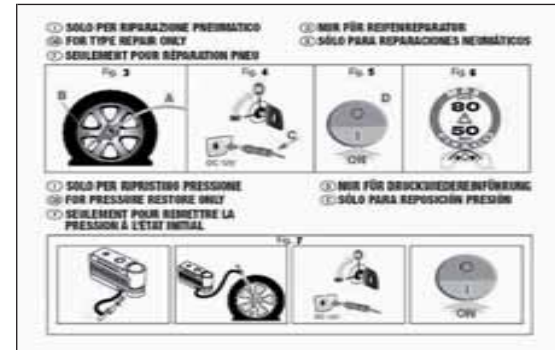

fig. 151
- instruction booklet fig. 151, to be used for prompt and correct use of the quick repair kit and then to be handed to the personnel charged with handling the tyre treated with the tyre repair kit;